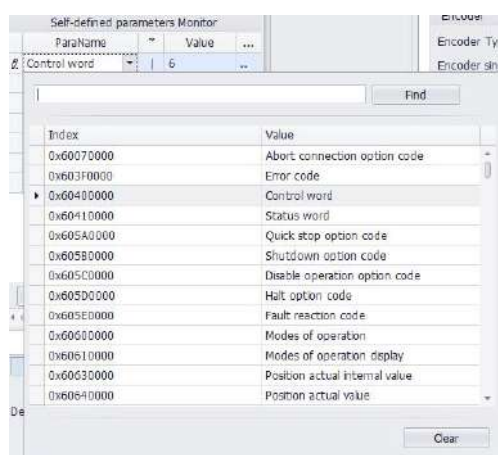

Figure 2-7 Selecting monitoring parameters
③Click to select an empty parameter, open the parameter list, find and click on the parameter to be monitored through the drop-down slider or according to the parameter name and index value "Find", to complete the addition of the monitored parameter, as shown in Figure 2-7.